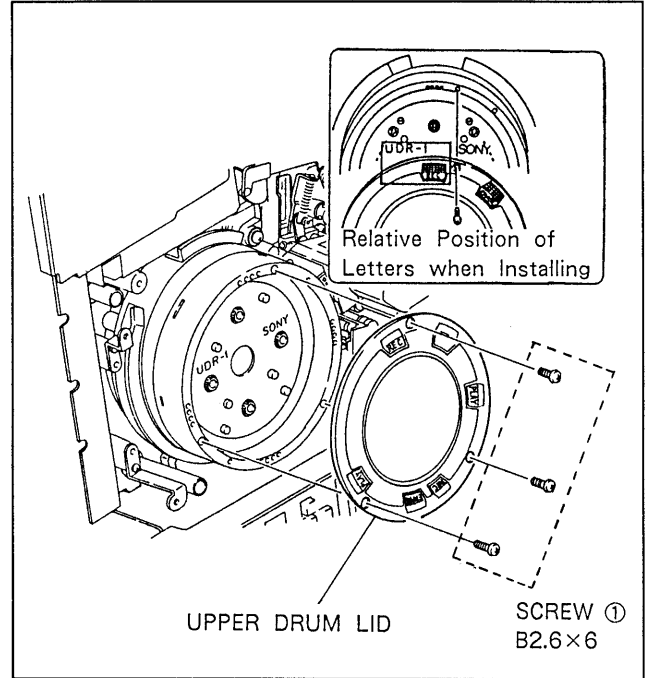

Fig. 6-2-7. Position of the Upper Drum Lid
As shown in Fig. 6-2-7, align the "REC" letters on the upper drum lid with the "UDR-1" printing of the UDR-1 board by tightening the three screws ①.